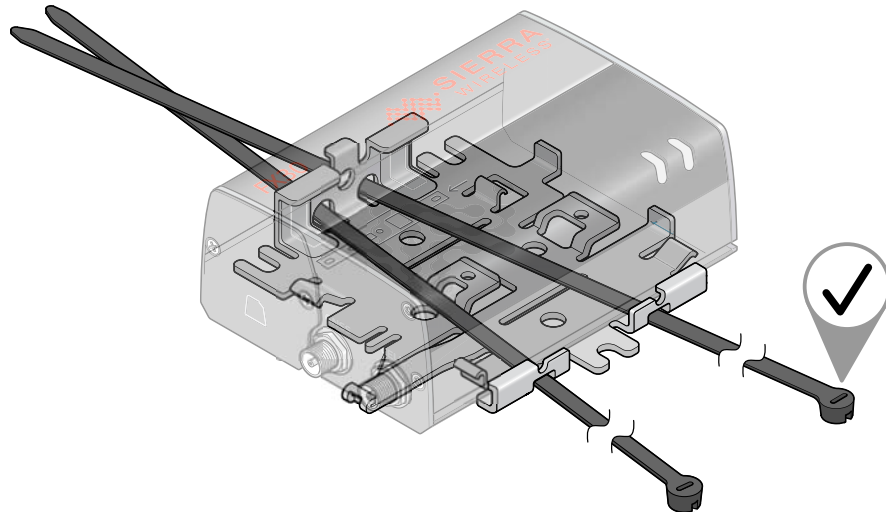

Figure 2-5: Inserting the cable ties
1. Thread the ties into the holes on one side of the bracket and out the holes on the other side of the bracket, as shown in Figure 2-5 on page 14.